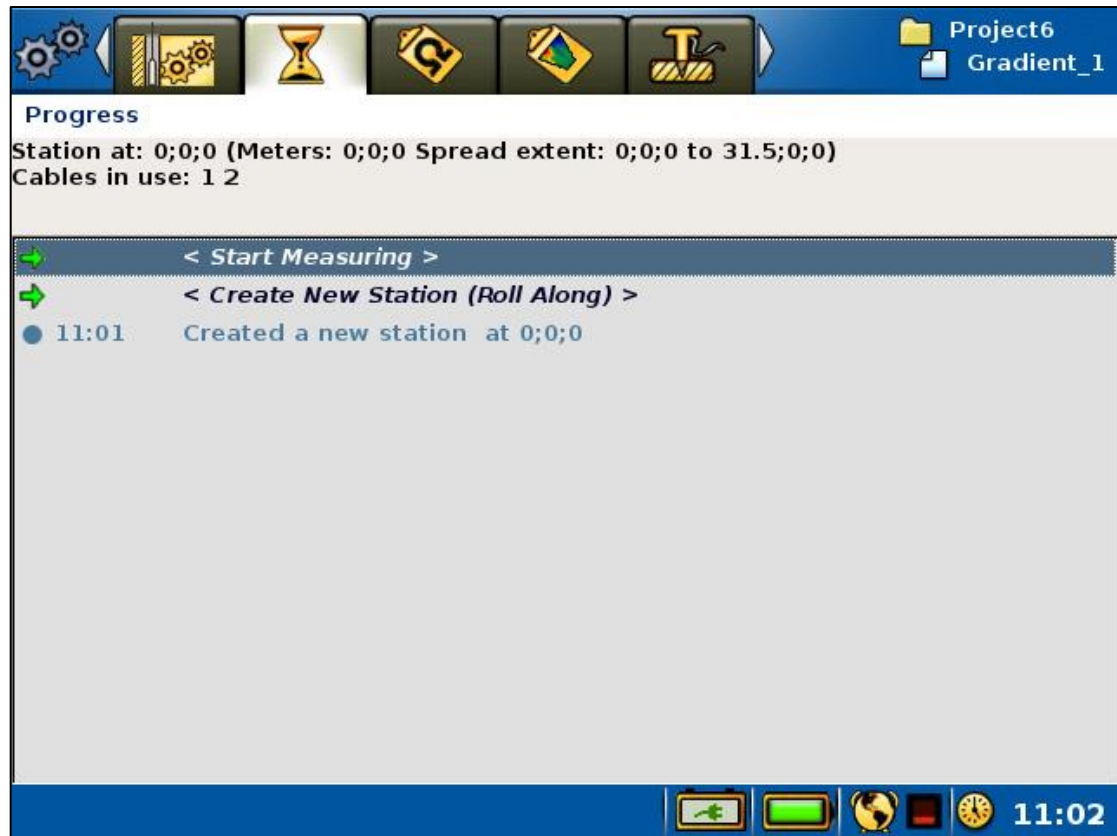
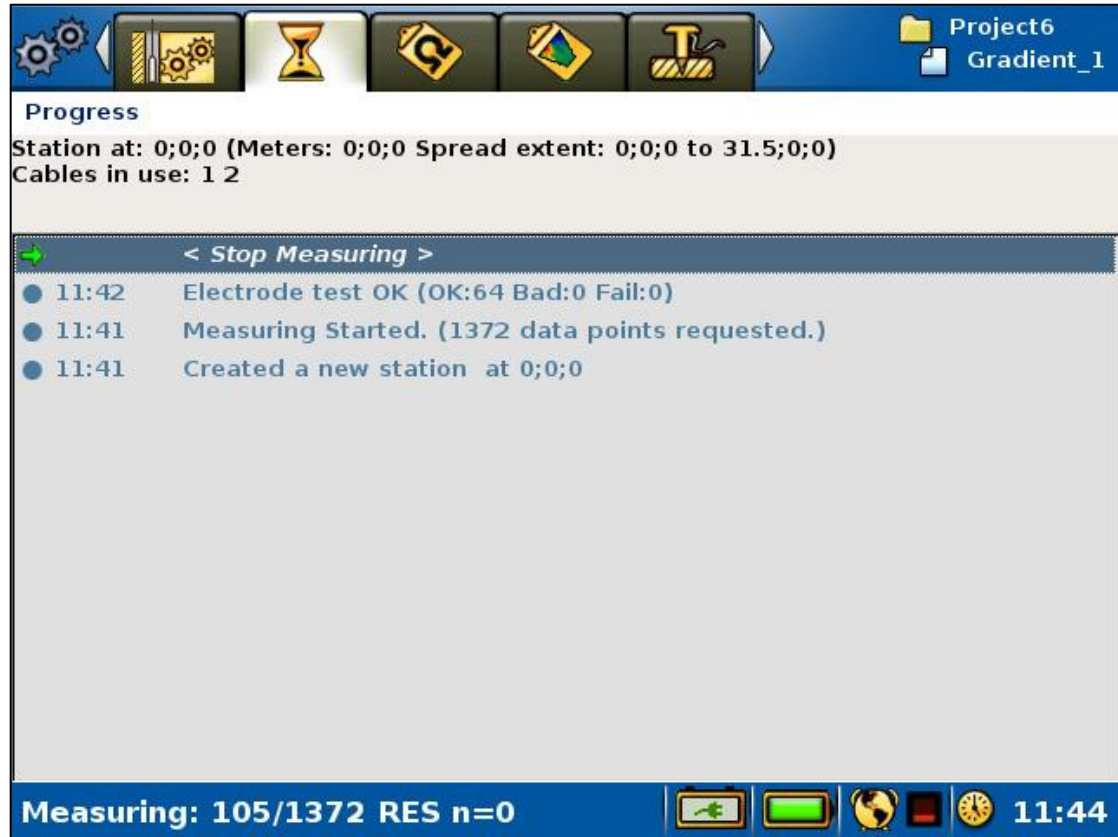

Figure 56 Start measuring command on measuring progress view
Figure 59 Progress view
- Move the highlight to the <Start Measuring> row (Figure 56)ith
The measuring progress is shown on the “*Measure/Progress*” View (Figure 59).
The top of the “*Measure/Progress*” View shows the coordinate location of the cable spread, and which of the cables that still remain to be used by the protocol on the present measurement station (Figure 56 and Figure 59). If all measurements for the cable have been completed it is removed from the list, so that only cables with remaining measurements on the current station are listed on that line.
- Move the highlight to the <Stop Measuring> row (Figure 59)